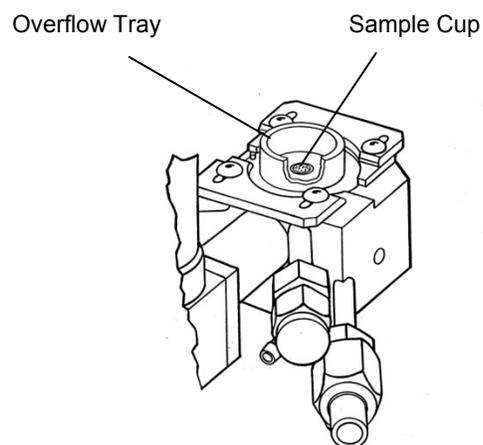

Figure 36 • Filling the Cup
- Place a sample screen into the sample cup and locate the plastic overflow tray over the sample cup (Figure 36).